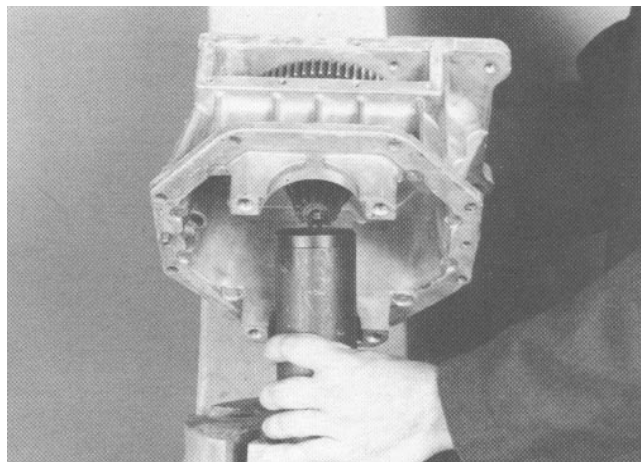

Figure 41
7. Support the drive pinion in a suitable press (Fig. 41).